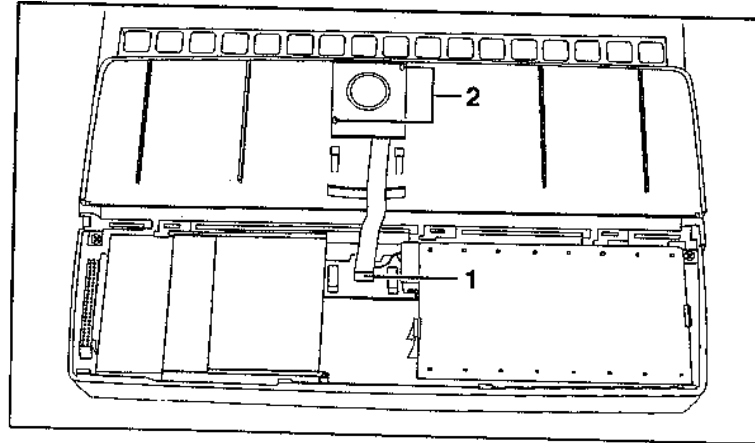

Figure 7-6-1. Trackball Module Disassembly/Reassembly
3. Unplug the trackball cable (Figure 7-6-1 #1).
4. Remove the two screws (Figure 7-6-1 #2) securing the trackball module to the lower cover plate and lift the trackball module free.
1. Secure the trackball module to the lower cover plate with two screws (Figure 7-6-1 #2).
2. Connect the trackball cable (Figure 7-6-1 #1).